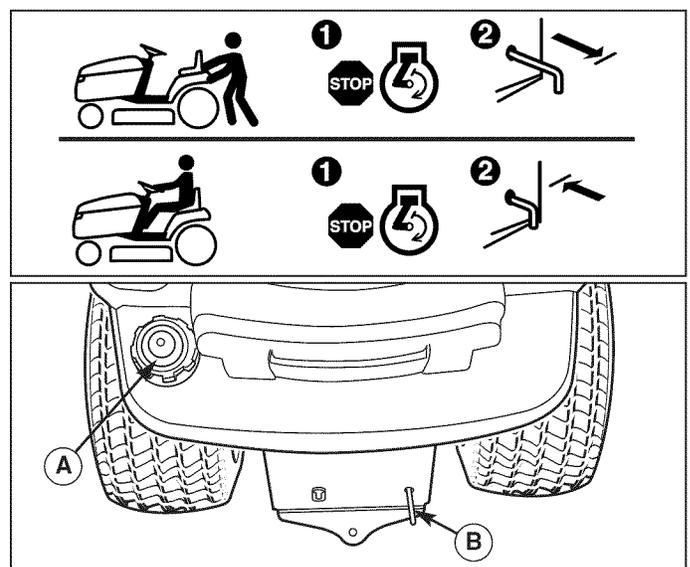

Figure 5. Transmission Release Lever & Fuel Tank
1. Remove the fuel cap (A, Figure 5).
2. Pull the transmission release (B, Figure 5) back approximately 2-3/8” (6 cm) to lock into released position.